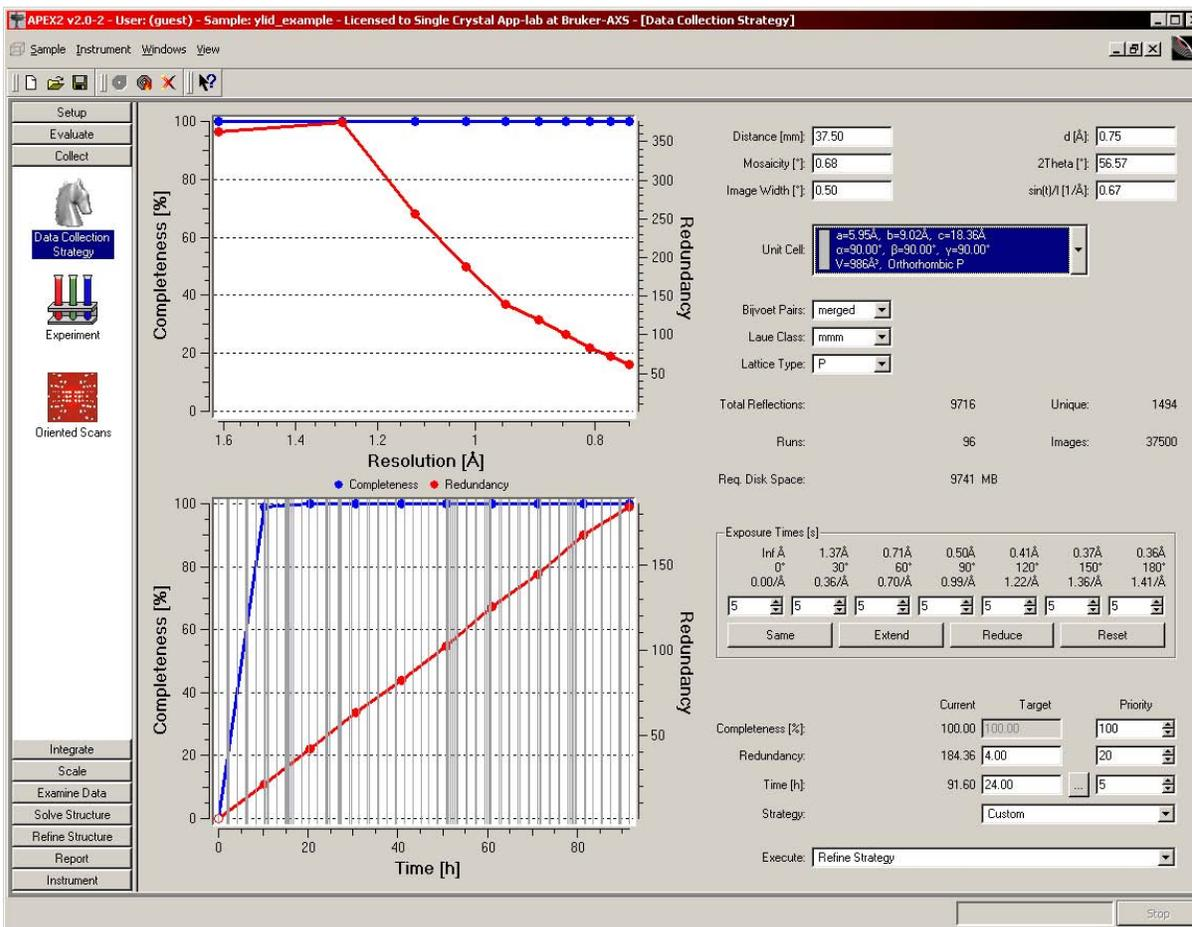

Figure 6.11 – Data Collection Strategy module
1. Under **Collect** in APEX2's Task Bar, click **Data Collection Strategy**. The Data Collection Strategy module opens in the Main Window (Figure 6.11).